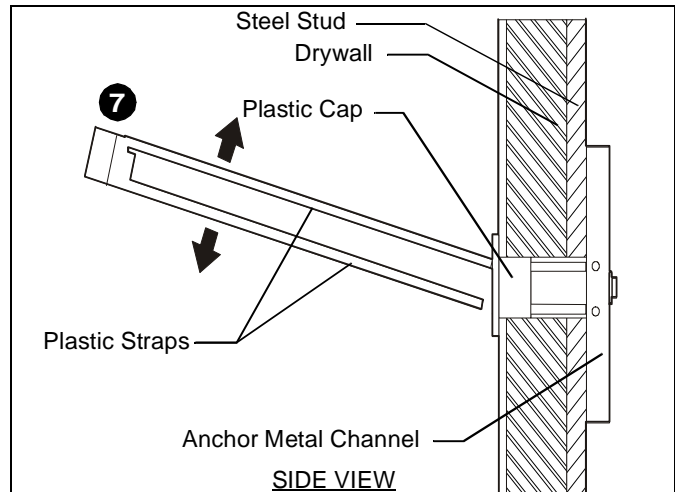

Figure 4
7. Snap off plastic straps on anchor at wall by pushing side to side, snapping off straps level with flange of plastic cap. (See Figure 4)